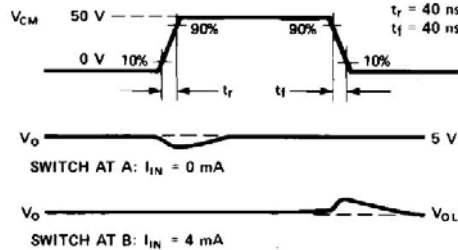

Figure 8. Test circuit for common mode transient immunity and typical waveforms.
- Common mode transient immunity in Logic High level is the maximum tolerable dV_{CM}/dt of the common mode voltage, V_{CM} , to ensure that the output will remain in a Logic High state (i.e., $V_O > 2.0\text{V}$). Common mode transient immunity in Logic Low level is the maximum tolerable dV_{CM}/dt of the common mode voltage, V_{CM} , to ensure that the output will remain in a Logic Low state (i.e., $V_O < 0.8\text{V}$). See Figure 8.